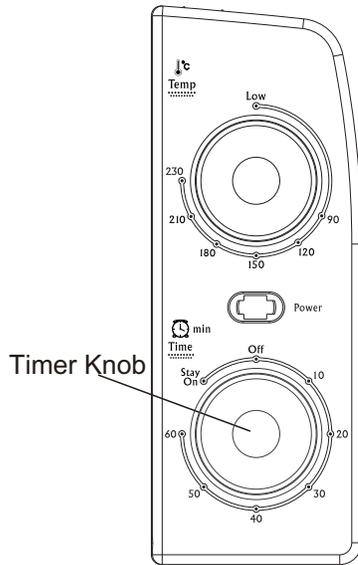

fig.1.
- 1、 Make sure oven is unplugged and Timer knob is in the OFF position. See fig.1.